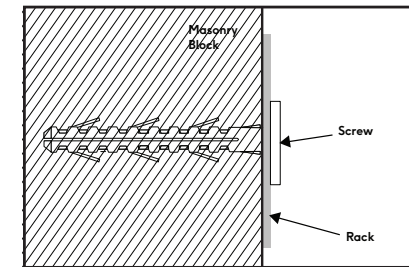

Fig 2/ Masonry Block
- Fig 2** Into Masonry Block work – Bugle screw and ram plug (2 per mounting plate)